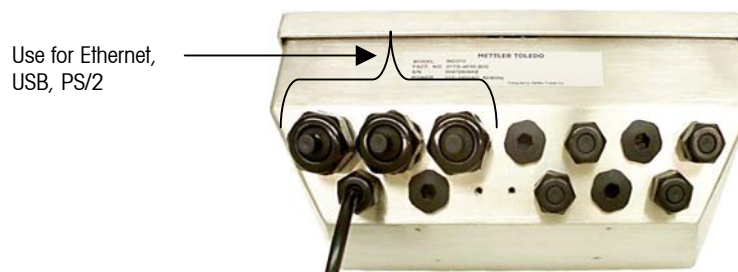

Figure 2-3: IND310drive Cable Glands
- Pass the cables through an appropriately sized cable grip before connecting the wires. For example, the ethernet cable goes through the large cable gland (see Figure 2-3).